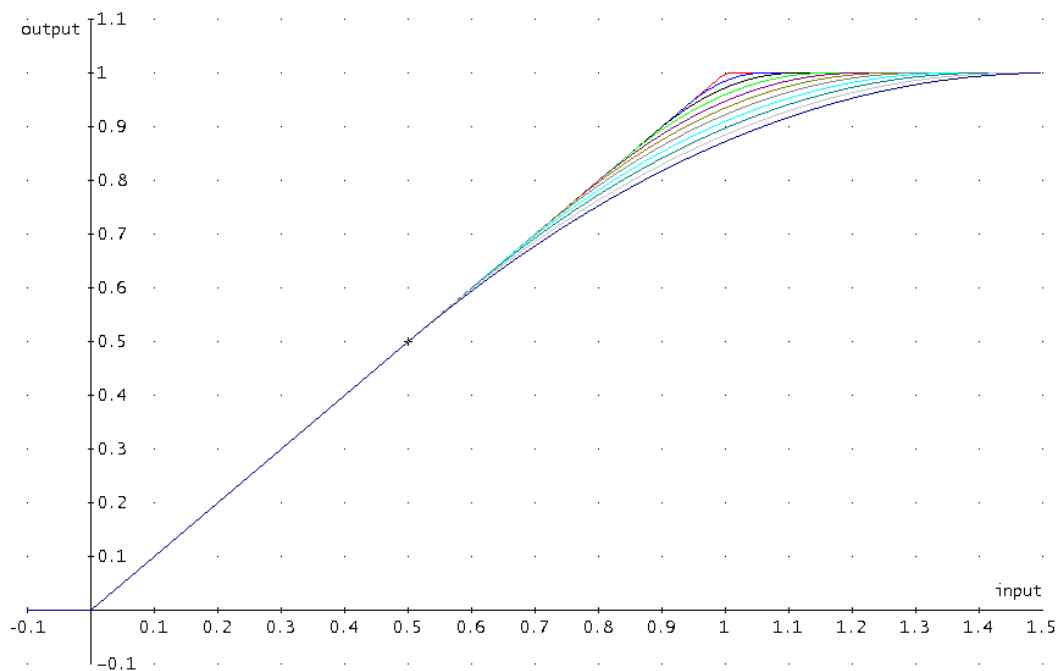

Figure 3-4: Bass Clipper Input/Output Transfer Curves as Bass Clip Shape Control is Varied from 0.0 (Hard) to 10.0 (Soft)
**Bass Clip Shape** allows you to change the knee of the input/output gain curve of the bass clipper. It allows you to control the shape of the “knee”—the transition between no clipping and flat topping. “0” provides the hardest knee, where the transition between linear operation and flat topping occurs abruptly as the clipper’s input level is changed. “10” is the softest knee, where the transition starts 6 dB below BASSCLIPTHRESH setting and occurs gradually. The factory default setting is “7.6.” See Figure 3-4 on page 3-47.